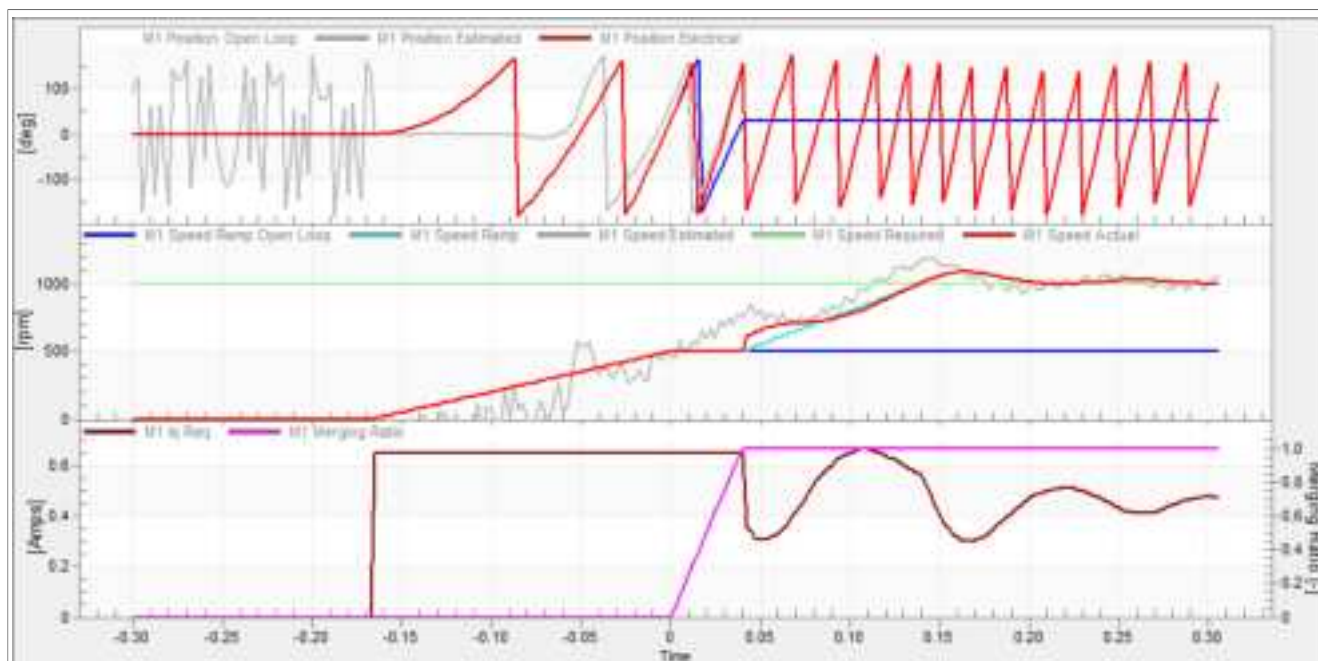

Figure 34. Motor startup
1. The startup process can be tuned by a set of parameters located in the "Sensorless" tab. Two of them (ramp increment and current) are accessible in both tuning modes. The startup tuning can be processed in all control modes besides the scalar control. Setting the optimal values results in a proper motor startup. An example startup state of low-dynamic drives (fans, pumps) is shown in Figure 34.